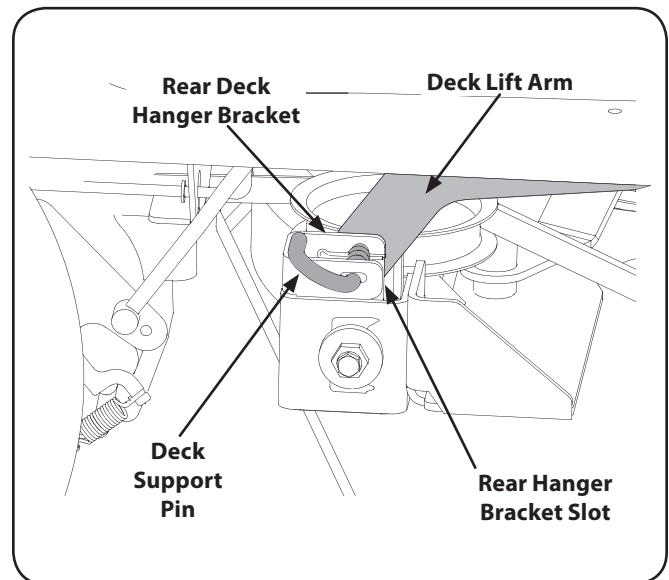

Figure 7-5
- Locate the LH and RH deck support pins on each side of the deck. Pull the deck support pins outward and lock in the disengaged position to release the deck from the tractor's LH and RH deck lift arms. Refer to Fig. 7-5.
- Raise the deck lift arms out of the rear hanger bracket slots by raising the deck lift handle on the tractor to its highest position. Refer to Fig. 7-5.
4. Maneuver the deck so that the slots in the two rear deck hanger brackets approximately align with the deck lift arms of the tractor. Refer to Fig. 7-5.
6. Pull the deck support pins outward and maneuver the deck as necessary to align the holes in the deck lift arms with the pins. Refer to Fig. 7-5.